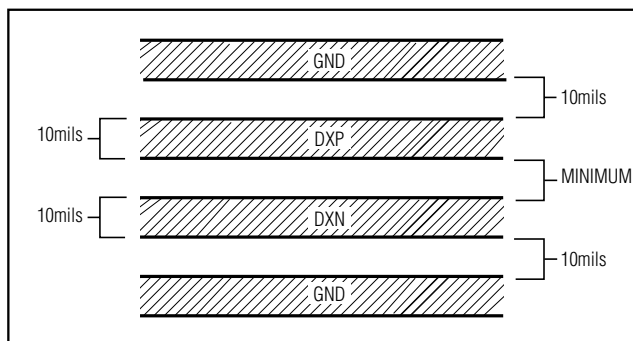

Figure 2. Recommended DXP-DXN PC Traces
- 3) Route the DXP and DXN traces in parallel and in close proximity to each other, away from any higher voltage traces, such as 12VDC. Leakage currents from PC board contamination must be dealt with carefully since a $20\text{M}\Omega$ leakage path from DXP to ground causes about 1°C error. If high-voltage traces are unavoidable, connect guard traces to GND on either side of the DXP-DXN traces (Figure 2).
- 6) Use wide traces. Narrow traces are more inductive and tend to pick up radiated noise. The 10mil widths and spacings that are recommended in Figure 2 are not absolutely necessary, as they offer only a minor improvement in leakage and noise over narrow traces. Use wider traces when practical.